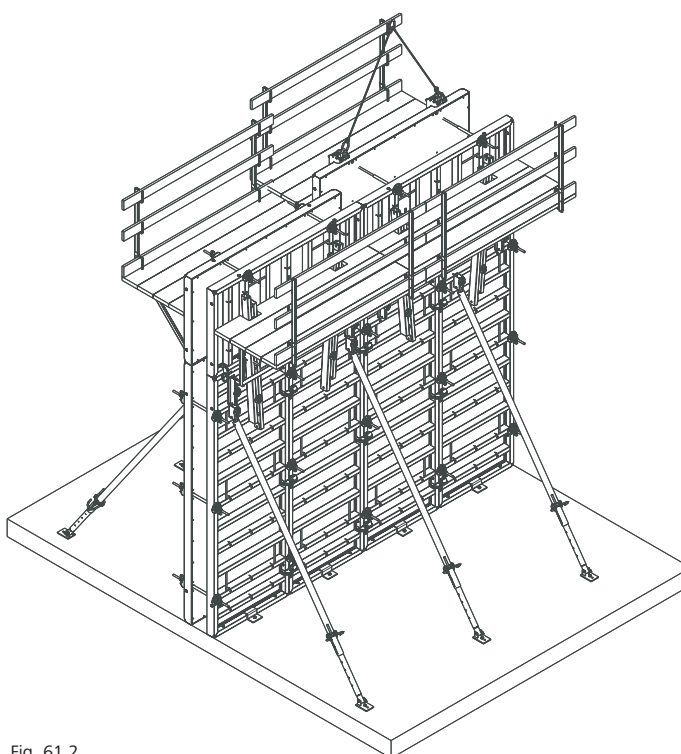

Fig. 61.2
3. Proceed with setting the other gangs along the second side in the same manner, connecting them with assembly locks (Fig. 61.2).